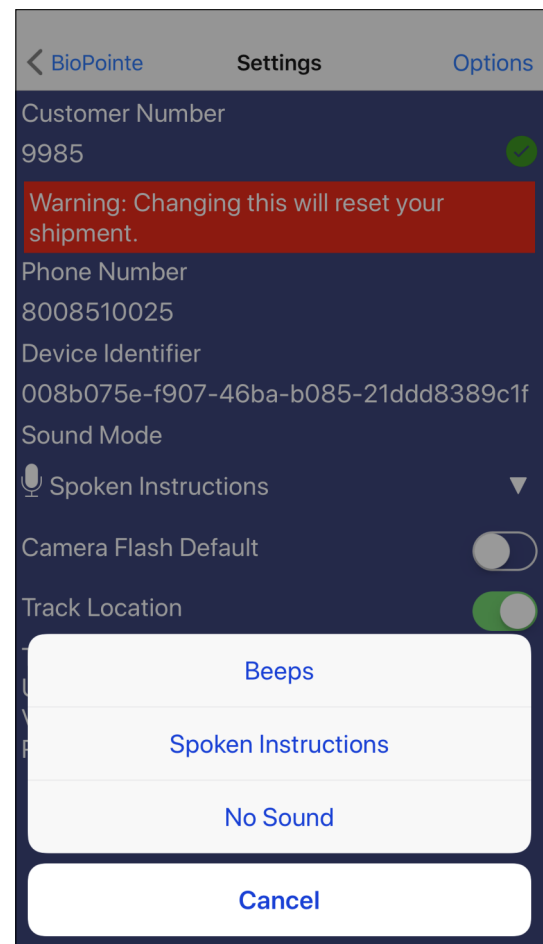

Fig 2
3. Prompts can be set to Beeps, Spoken Instruction, or No Sound. See Fig 2